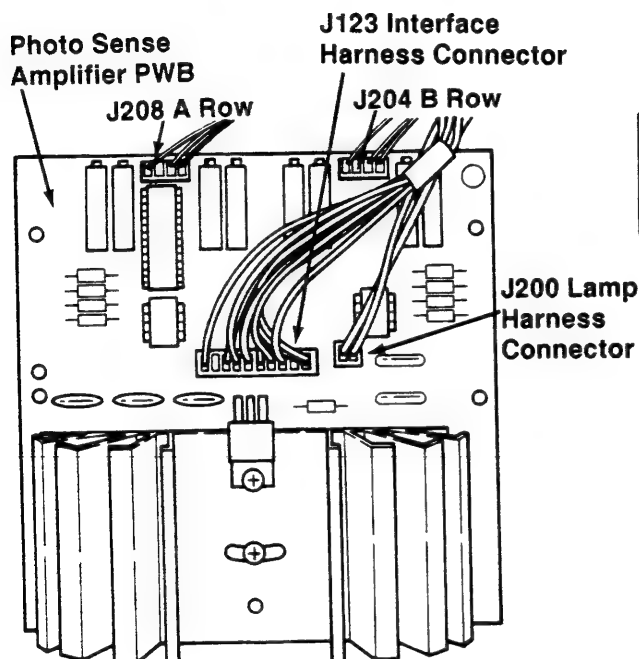

Figure 2-3.2G
21. Mate the A Row and B Row Connectors (J203 and J204) with the Photo Sense Amplifier PWB (Item 9). See Figure 2-3.2G.
22. Mate J200 of the 654 Photo Sense Lamp Harness Assembly with the Photo Sense Amplifier PWB (Figure 2-3.2G).
23. Mate J123 of the 10 position 654 Photo Sense Harness (Item 8) with the Photo Sense Amplifier PWB (Figure 2-3.2G).